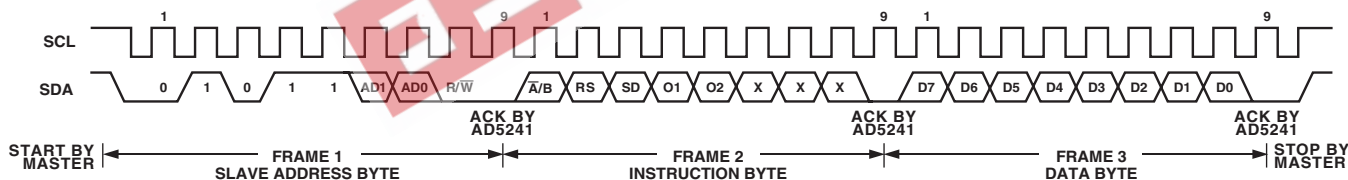

Figure 2. Writing to the RDAC Serial Register
The AD5241/AD5242 are controlled via an I2C compatible serial bus. The RDACs are connected to this bus as slave devices. Referring to Figures 2 and 3, the first byte of AD5241/AD5242 is a Slave Address Byte. It has a 7-bit slave address and an RW Bit. The 5 MSBs are 01011 and the following two bits are determined by the state of the AD0 and AD1 Pins of the device. AD0 and AD1 allow users to use up to four of these devices on one bus.
1. The master initiates data transfer by establishing a START condition, which is when a high-to-low transition on the SDA line occurs while SCL is high (Figure 2). The following byte is the Slave Address Byte, Frame 1, which consists of the 7-bit slave address followed by an RW Bit (this bit determines whether data will be read from or written to the slave device).
Pin except that  $\overline{\text{SHDN}}$  Pin reacts to active low. The following two bits are  $O_2$  and  $O_1$ . They are extra programmable logic outputs that users can use to drive other digital loads, logic gates, LED drivers, analog switches, and the like. The three LSBs are Don't Care. See Figure 2.
3. After acknowledging the Instruction Byte, the last byte in Write Mode is the Data Byte, Frame 3. Data is transmitted over the serial bus in sequences of nine clock pulses (eight data bits followed by an Acknowledge Bit). The transitions on the SDA line must occur during the low period of SCL and remain stable during the high period of SCL (Figure 2).
5. When all Data Bits have been read or written, a STOP condition is established by the master. A STOP condition is defined as a low-to-high transition on the SDA line while SCL is high. In Write Mode, the master will pull the SDA line high during the tenth clock pulse to establish a STOP condition (see Figure 2). In Read Mode, the master will issue a No Acknowledge for the ninth clock pulse (i.e., the SDA line remains high). The master will then bring the SDA line low before the tenth clock pulse, which goes high to establish a STOP condition (see Figure 3).
Specific to the AD5242 dual-channel device, the channel of interest is the one that was previously selected in the Write Mode. In addition, to read both RDAC values consecutively, users have to perform two write-read cycles. For example, users may first specify the RDAC1 subaddress in the Write Mode (it is not necessary to issue the Data Byte and the STOP condition), then change to the Read Mode and read the RDAC1 value. To continue reading the RDAC2 value, users have to switch back to the Write Mode and specify the subaddress, then switch once again to the Read Mode and read the RDAC2 value. It is not necessary to issue the Write Mode Data Byte or the first stop condition for this operation. Users should refer to Figures 2 and 3 for the programming format.